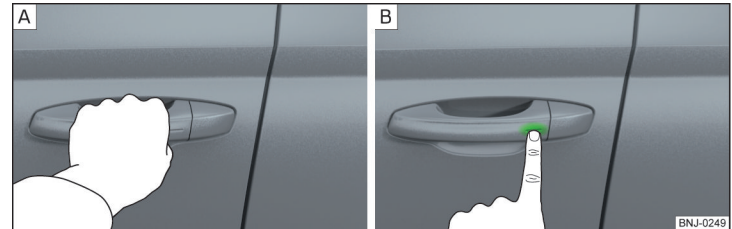

Fig. 44 Vehicle unlocking / vehicle locking
- › Grip the door handle to **unlock** the vehicle » Fig. 44 - **A**.
- › Touch the sensor on the door handle with your finger to **lock** » Fig. 44 - **B** the vehicle.